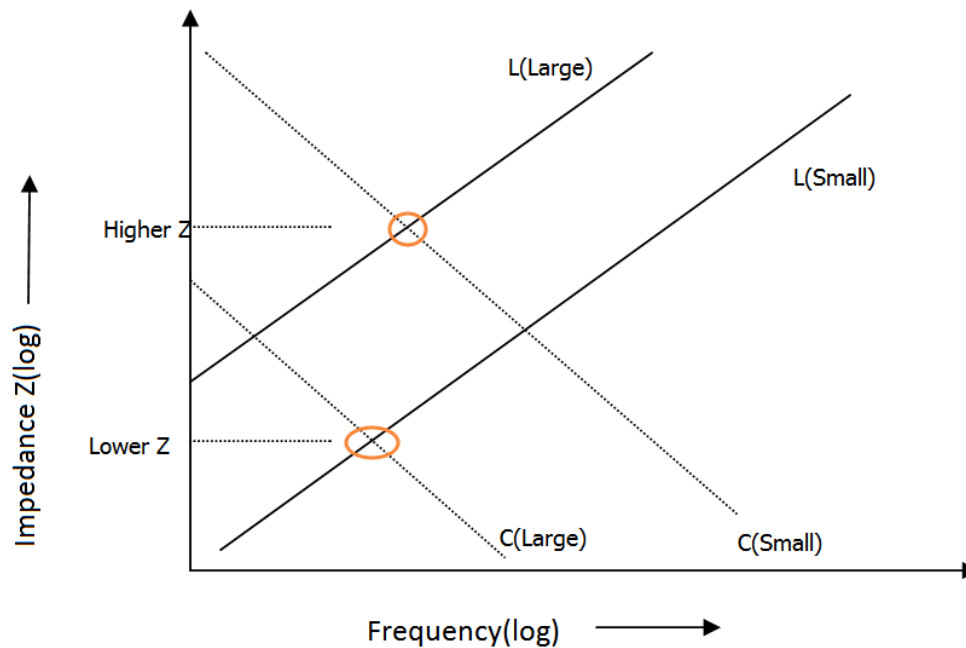

Figure 15
The PDN impedance (Z) is modeled by combinations of capacitance, inductance, and resistance. As to figure 15.